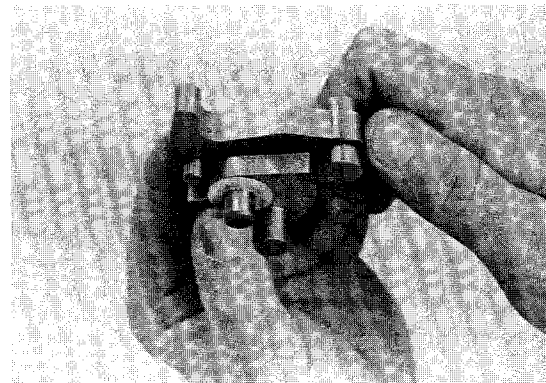

Figure 9-14
9. Install the white flat washers (19) up against the outside of both weights. Center the weights on the pin (Figure 9-14).